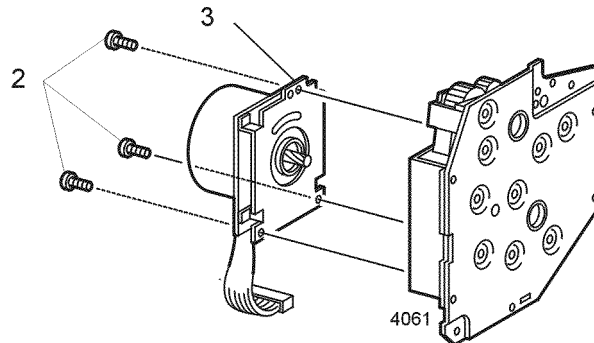

Figure 1 Motor Assembly
2. Remove the three screws that secure the Motor Assembly to the Gear Assembly (Figure 1).
3. Remove the Motor Assembly from the Gear Assembly (Figure 1).